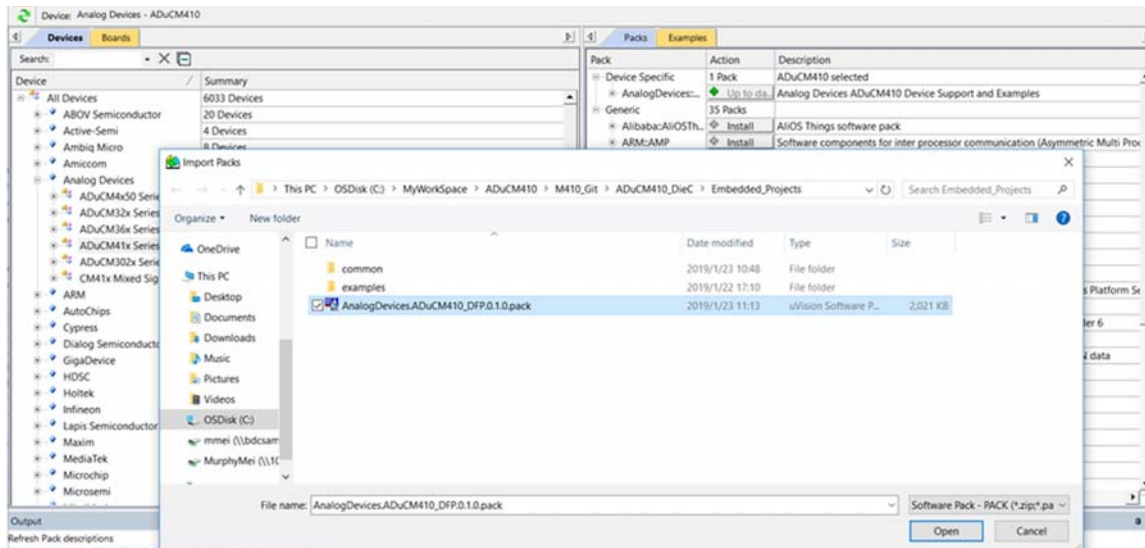

Figure 6. Pack Installer
2. After the CMSIS pack installer has opened, click **File** > **Import**. Select and import the ADuCM410 pack that is included in the installation setup (see Figure 6).